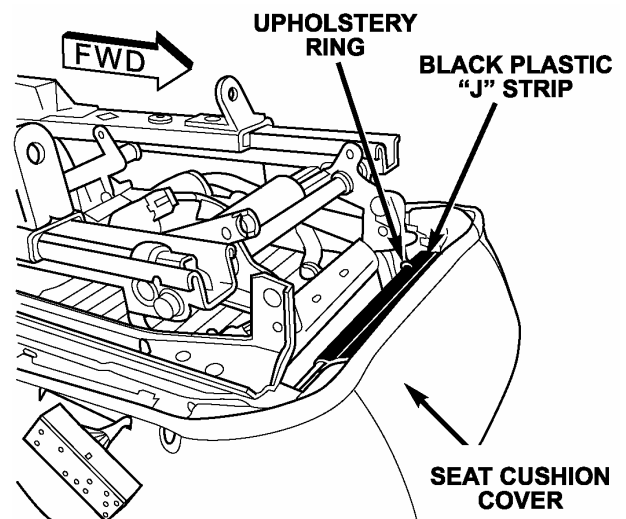

Figure 3
16. Remove the metal upholstery ring from front “J” strap (Figure 3).
30. Install one upholstery ring on the front “J” strap in the same location as was removed earlier (Figure 3).